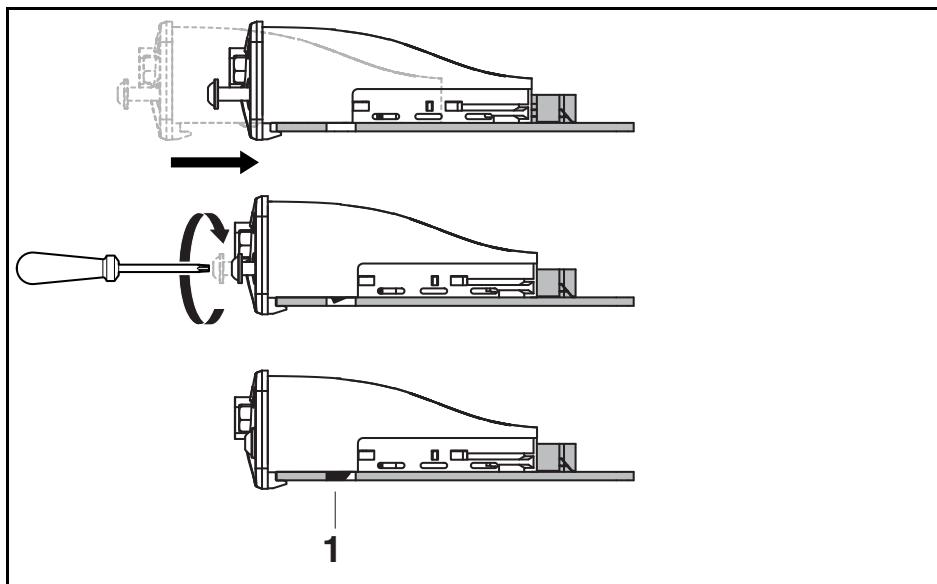

Abb. 3: Lock effect
3. Tighten the torx screws on the front until the front panel is flush. The circuit board is locked by turning the screw. This lock is only fully functional once the interface has been properly tightened (see Fig. 3).